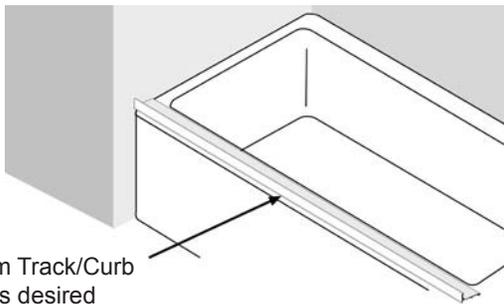

Figure 2
- B. Center the “W” Bottom Track/Curb (#2) on the sill/dam. In some installations, you may prefer to position the “W” Bottom Track/Curb (#2) forward or back of center. For example, by moving the “W” Bottom Track/Curb (#2) forward, you will slightly increase the depth within the shower area. See Figure 2.